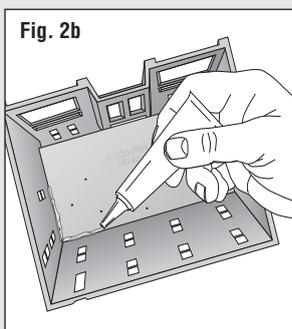

Fig. 2b
- Apply glue along seam on underside of roof (Fig. 2b).